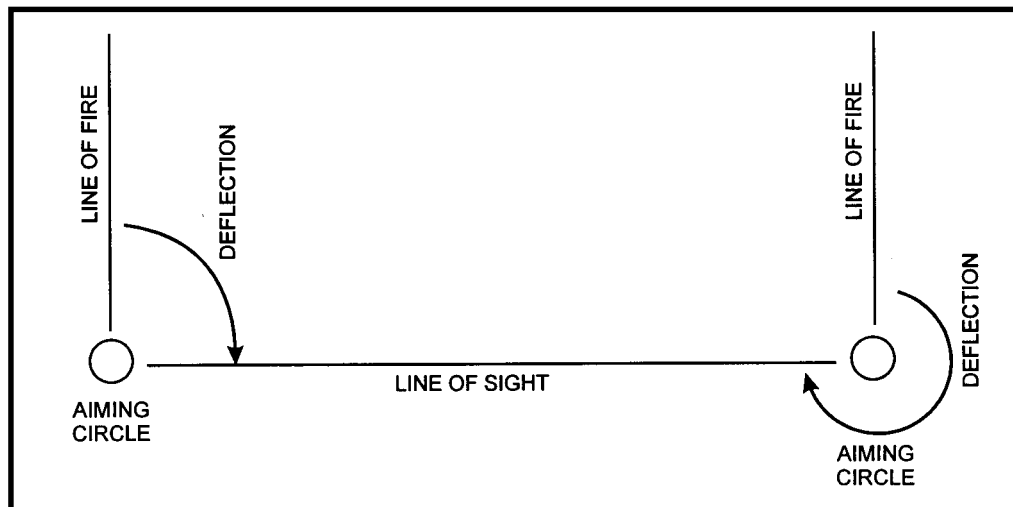

Figure 2-9. Method used to orient an M2 aiming circle.
a. The platoon leader or designated safety officer sets up and orients an M2 aiming circle by using the method that was used with the lay circle (Figure 2-9). The aiming circle must be located where it can be seen by all mortars and should not be closer than 10 meters to the lay circle.